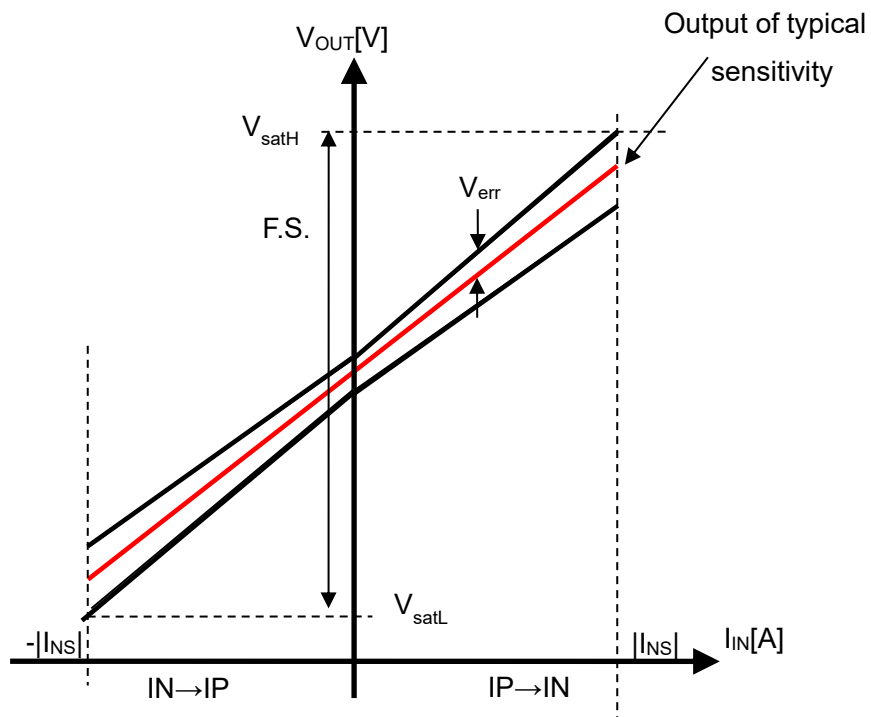

Figure 4. Total Accuracy of CZ-3A04
10.2. Total Accuracy  $E_{total}$  [%F.S.] is defined as below (See Figure 4.)